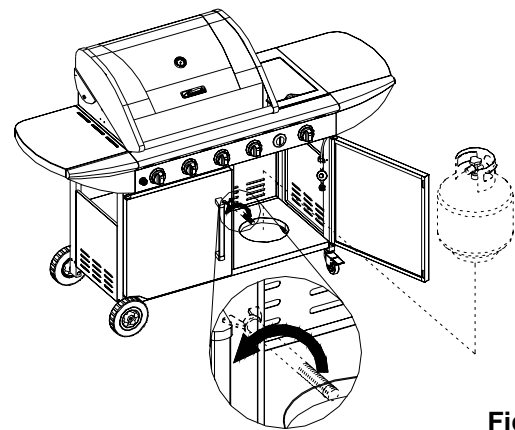

Figure 21
1.From Rear of the cart, place foot ring of 20 lb tank into the hole in bottom shelf. Make sure the tank valve is in OFF position. (Fig.21)